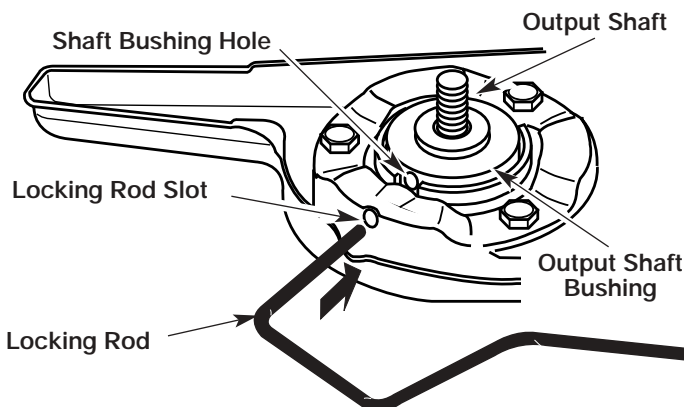
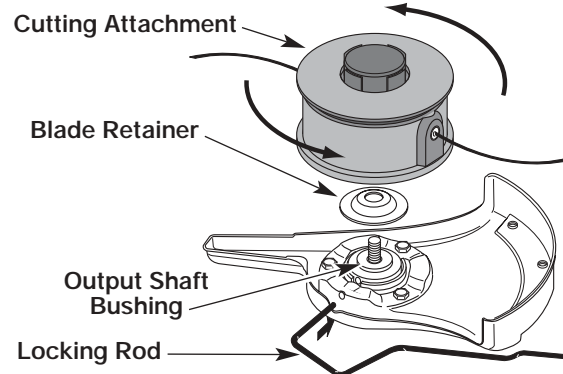

Fig. 8
Fig. 15
1. Align the shaft bushing hole with the locking rod slot and insert the locking rod into the shaft bushing hole (Fig. 8).
- Align the shaft bushing hole with the locking rod slot and insert the locking rod into the bushing hole (Fig. 8).
- Align the shaft bushing hole with the locking rod slot and insert the locking rod into the shaft bushing hole (Fig. 8). Place the blade retainer on the output shaft with the flat surface against the output shaft bushing (Fig. 15). Screw the cutting attachment counterclockwise onto the output shaft. Tighten securely.